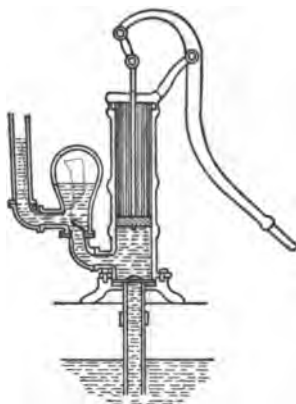

FIG. 43.—A force pump with an air chamber.
63. The Force Pump.—The force pump is used to deliver water under pressure either for spraying or to an elevated reservoir. The piston is solid, the second valve being placed at the entrance of the discharge pipe. (See Fig. 43.) The action is the same as that of the lift pump, with this exception; the piston in its down stroke forces the water out through the discharge pipe, the velocity depending upon the pressure exerted.